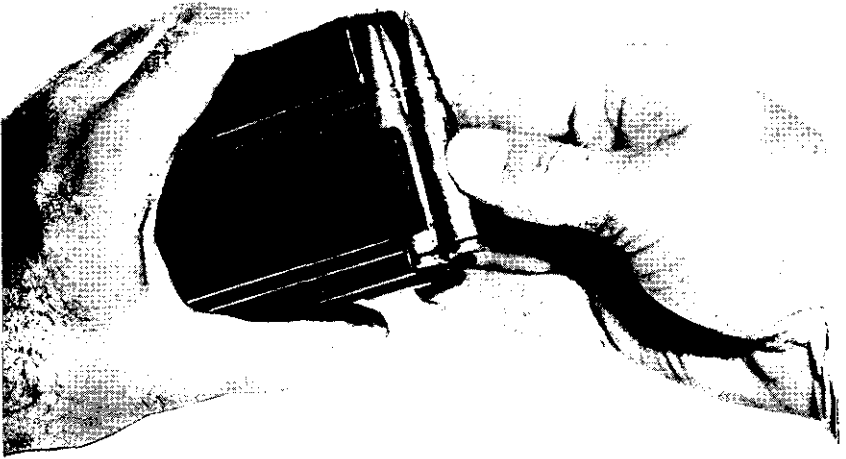

Figure 34. Loading the magazine.
a. Hold the magazine as shown in figure 34. Insert the rounds with the bullet ends toward the front of the magazine (front end has square hole).